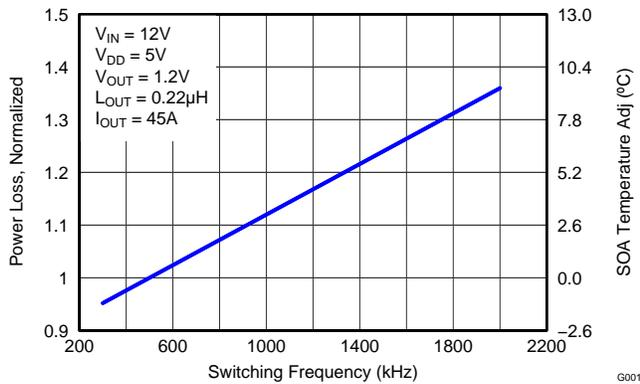

Figure 7. Normalized Power Loss vs Frequency
- Normalized Power Loss for switching frequency ≈ 1.07 (Figure 7)
- SOA adjustment for switching frequency $\approx 1.9^{\circ}\text{C}$ (Figure 7)